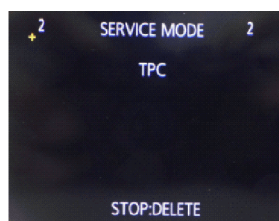

Fig.3-9
5. The (+) mark appears in the upper left (Fig.3-9). Then touch the (+) mark.